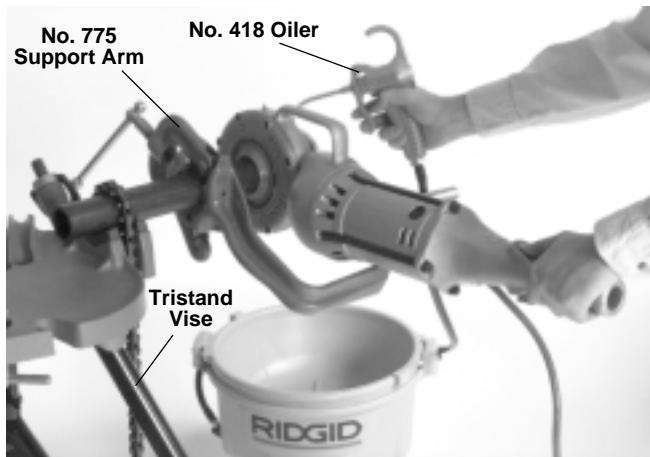

Figure 4 – Threading 2" Pipe With Power Drive Positioned On Left Side Of Vise
- Be sure the 418 Oiler is properly filled with RIDGID Thread Cutting Oil. Position the oiler in front of the vise (*Figure 4*).
- Position No. 775 Support Arm on pipe so end of tang is in line with end of the pipe (*Figures 4 & 5*). Make sure jaws squarely contact pipe and tighten handle firmly to prevent the slipping of the jaws.
WARNING To avoid serious injury, make sure Power Drive is correctly positioned on support arm (*Figures 4, 5 & 6*). For right hand threads, Die Head will rotate clockwise (looking at the face of the Die Head). Forces developed by the threading torque will be in the opposite or counter-clockwise direction.